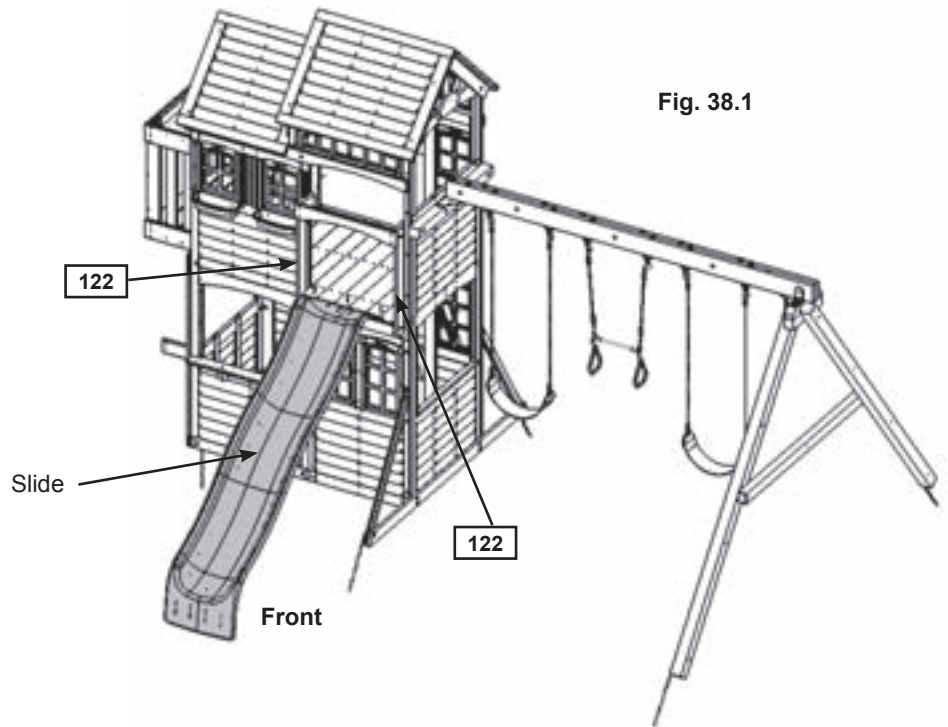

Fig. 38.1
A: Place Slide centred in the opening between (122) Posts. (fig. 38.1 and 38.2)
B: Attach slide to fort through the floor boards and into (126) SL End using 3 (S7) #12 x 2" Pan Screws. (fig. 38.1 and 38.2)